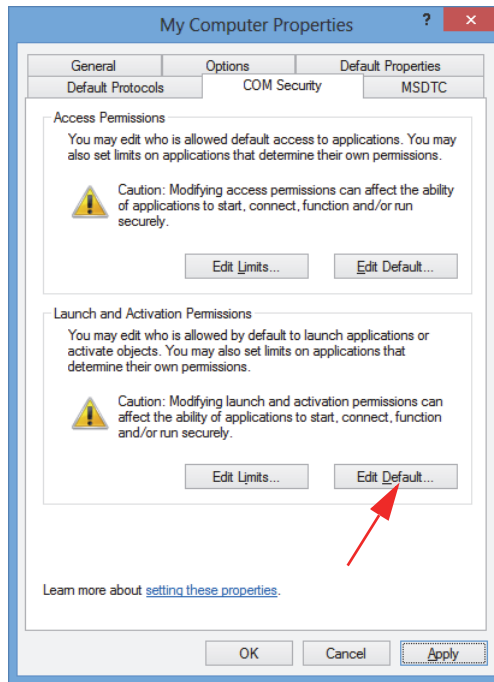

Figure 2-14 The Edit Default button under Launch and Activation Permission
13. On the **COM Security** tab of the **My Computer Properties** dialog box, under **Launch and Activation Permissions**, click **Edit Default** (see Figure 2-14 on page 41).